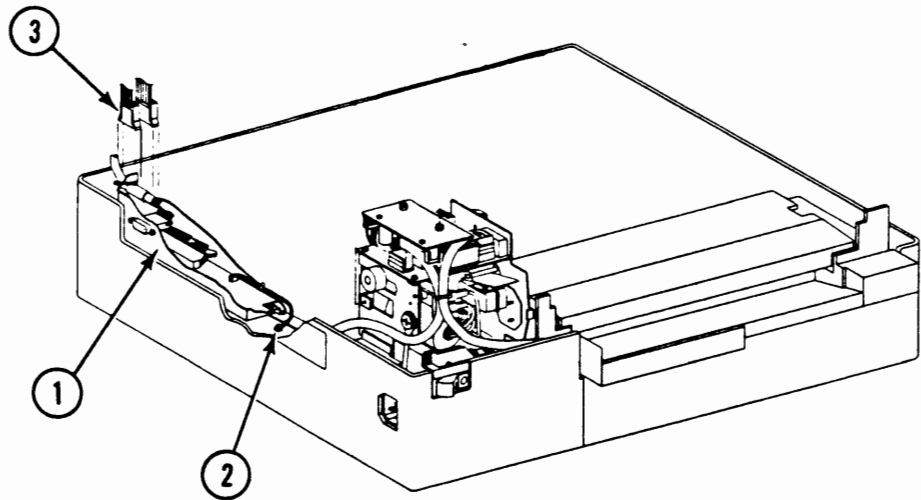

FIGURE 2-54
15. Remove the mounting connector plate (Figure 2-54, #1) as follows:
- a) Remove the large, black screw (Figure 2-54, #2) that secures the grey-and-white grounding wire to the lower main body.
16. Disconnect the two black-and-white cables from the connectors behind the mounting connector plate (Figure 2-54, #3).